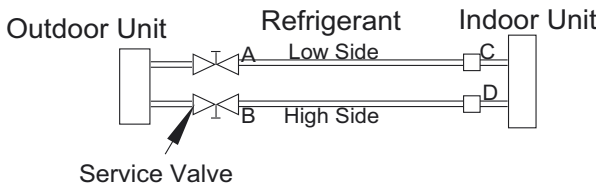

Figure 21 – Service Valve
- (1.) Completely tighten flare nuts A, B, C, D, connect manifold gage charge hose to a charge port of the low side service valve. (See Fig. 21.)